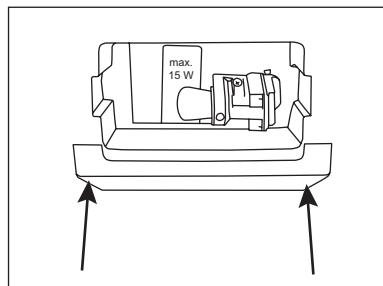

fig. 7
- 2 . Remove the lamp cover by pressing its upper edge downwards to release it from the two clips (fig. 7).